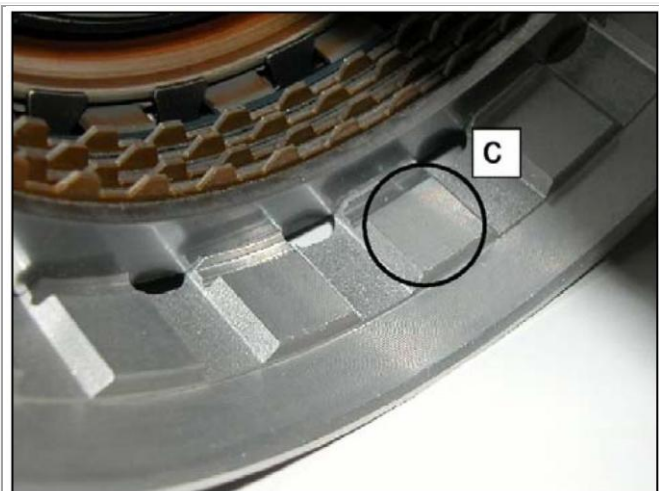

Figure 1
**NOTE:** There are two different versions of the B1 and B3 multi-disk brake. It is essential to ensure that the retaining ring is ordered correctly. Refer to Figures 1 through 3 and the parts table, identification groove on the inside/outside of the plate supports.